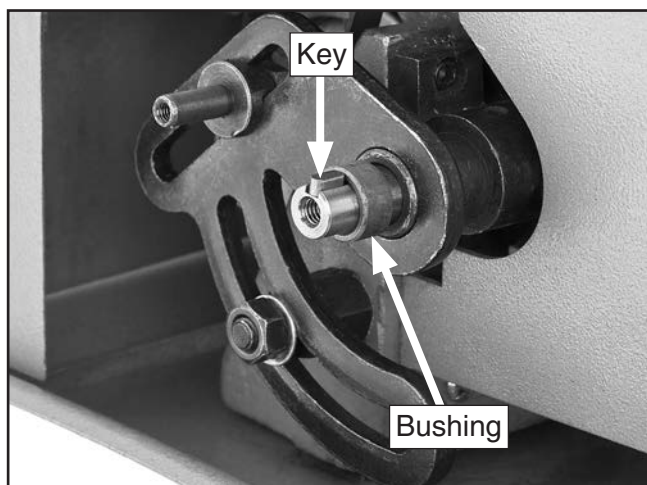

Figure 62. D gear shaft key and bushing.
8. Remove key and bushing from D gear shaft (see **Figure 62**).